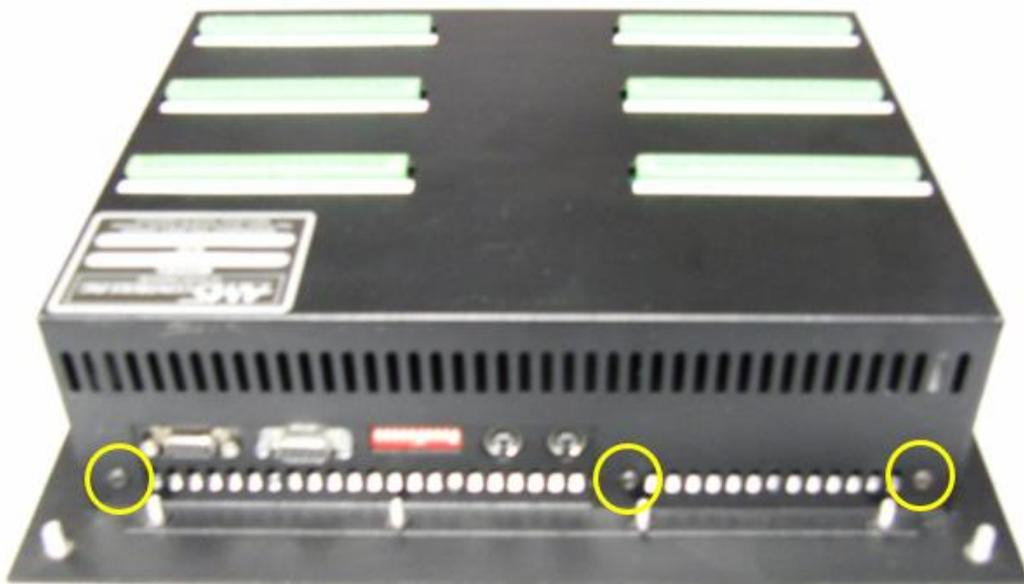

Figure 4 - Top of XL200
3. Remove the 3 screws on the top of the controller circled in yellow in Figure 4.